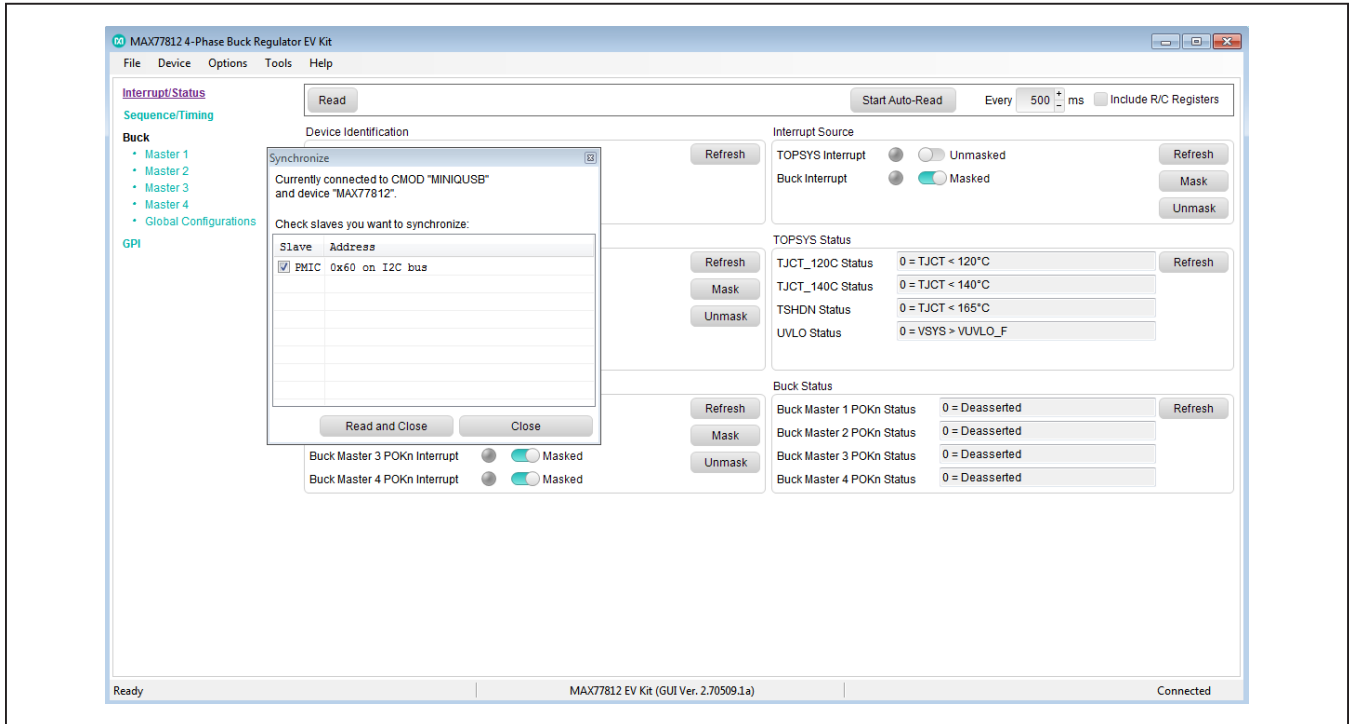

Figure 4. MAX77812 EV Kit GUI Connection
- 4) Enable the power supply output and confirm the input current is low ( $< 100\mu A$ ). Open the MAX77812 GUI window and click on **Device** then **Connect**. If the connection is successful, it displays the message **Currently connected to MINIQUSB CMOD and DEVICE MAX77812**. Click **Read and close** (Figure 4).